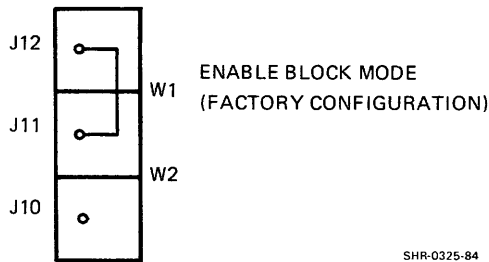

Figure 2-5 Enable/Disable Block Mode
**2.2.4 Enable/Disable Block Mode Jumper (Figure 2-5)**